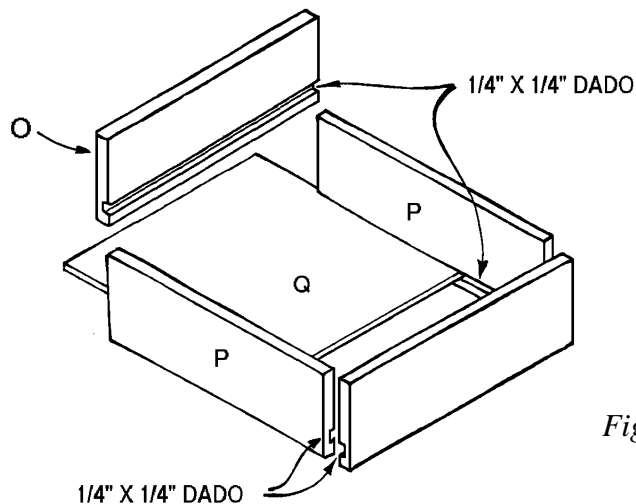

Figure 5
1. There are two identical drawers in this cabinet. Both are constructed as shown in the assembly diagram in *Figure 5*.
2. Cut the following parts for the drawer from 1 x 4 pine: two drawer front/back pieces (O), each 12 inches long, and two drawer sides (P), each 20 inches long.
4. Cut one 11" x 20" drawer bottom (Q) from 1/4"-thick plywood. Assemble the drawer as shown in *Figure 5*. Use glue and finishing nails, spacing two nails on each end of the overlapping boards. The drawer front is added later.